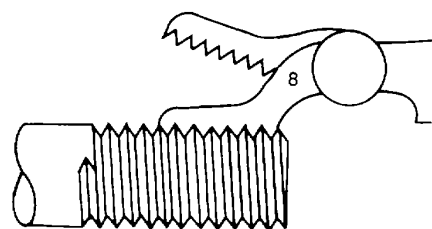

**Figure 3-52. Thread Gauge**
(1) Coat all metal parts of height gauges with a light coat of oil to prevent rust.
(2) Carefully store height gauges in separate containers provided by manufacturer.
(3) Keep graduations and markings clean and legible.
(4) Do not drop any height gauge. Small nicks and scratches can cause inaccurate measurements.
**3-13. Thread Gauges.** Thread gauges are used to determine the pitch and number of threads per inch on threaded fasteners. They consist of leaves whose edges are toothed to correspond to standard threads. A typical thread gauge is shown in figure 3-52.